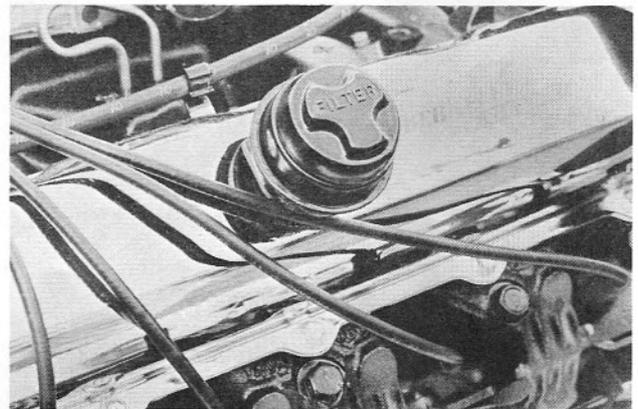

Figure 21
**D. CRANKCASE VENTILATION FILTER** The crankcase ventilation filter is located in the center of the right hand valve cover (Figure 21). It should